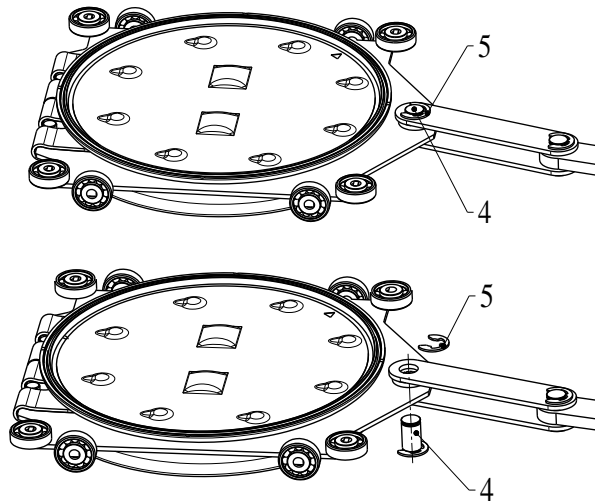

Figure 6-3
7. Remove locking ring (5) according to «Figure 6-3» on page 18.
8. Withdraw bolt (4) by pulling it downwards according to «Figure 6-3» on page 18.
14. Mount bolt (4) according to «Figure 6-3» on page 18.
15. Mount locking ring (5) according to «Figure 6-3» on page 18.